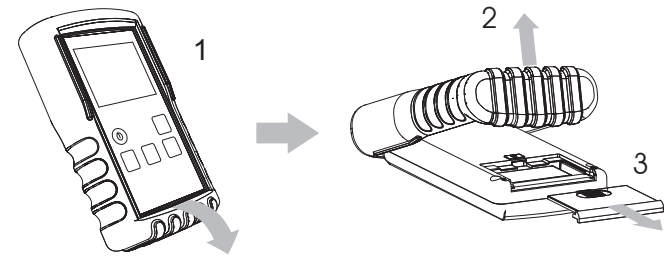

Fig 5 - Battery replacement
- 1-Release the rubber holster from plastic enclosure by pulling from the bottom of the holster as shown in the illustration (Fig. 5)